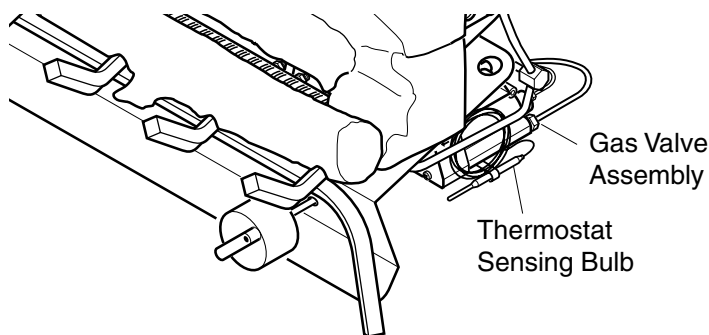

Figure 28 - Location of Gas Valve Assembly and Thermostat Sensing Bulb
1. Locate the gas valve assembly and thermostat sensing blub (see Figure 28).
3. With 5/16" hex driver or socket, loosen the thermostat screw. Carefully slide the thermostat sensing bulb out of the retaining clamp (see Figure 28).